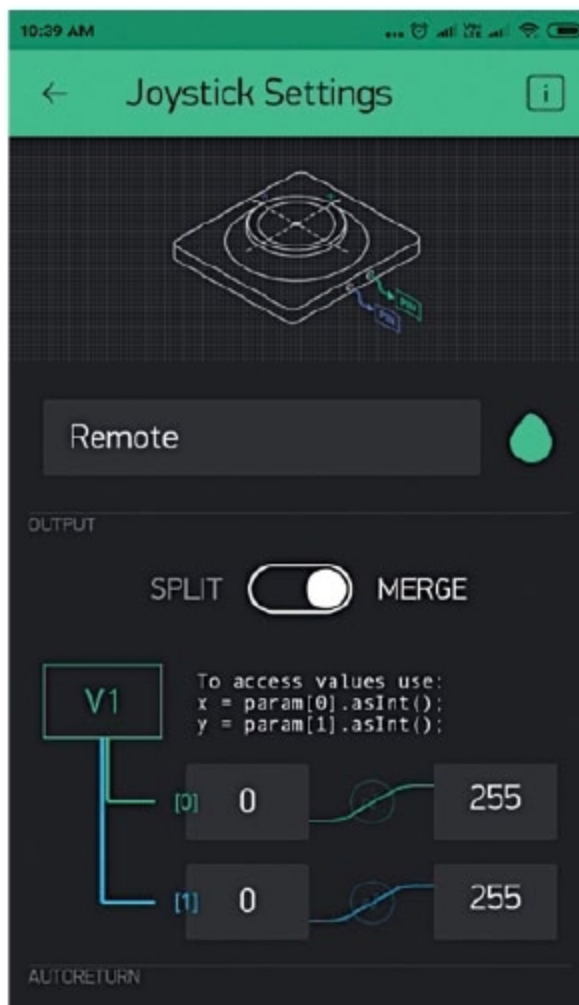

Fig. 7: Joystick settings
8. Go back to the created project in Blynk app. Select Joystick from Widget Box and click on Joystick to configure it (Fig. 6). Select V1 pin, and define x and y axis range from 0 to 255 (Fig. 7).